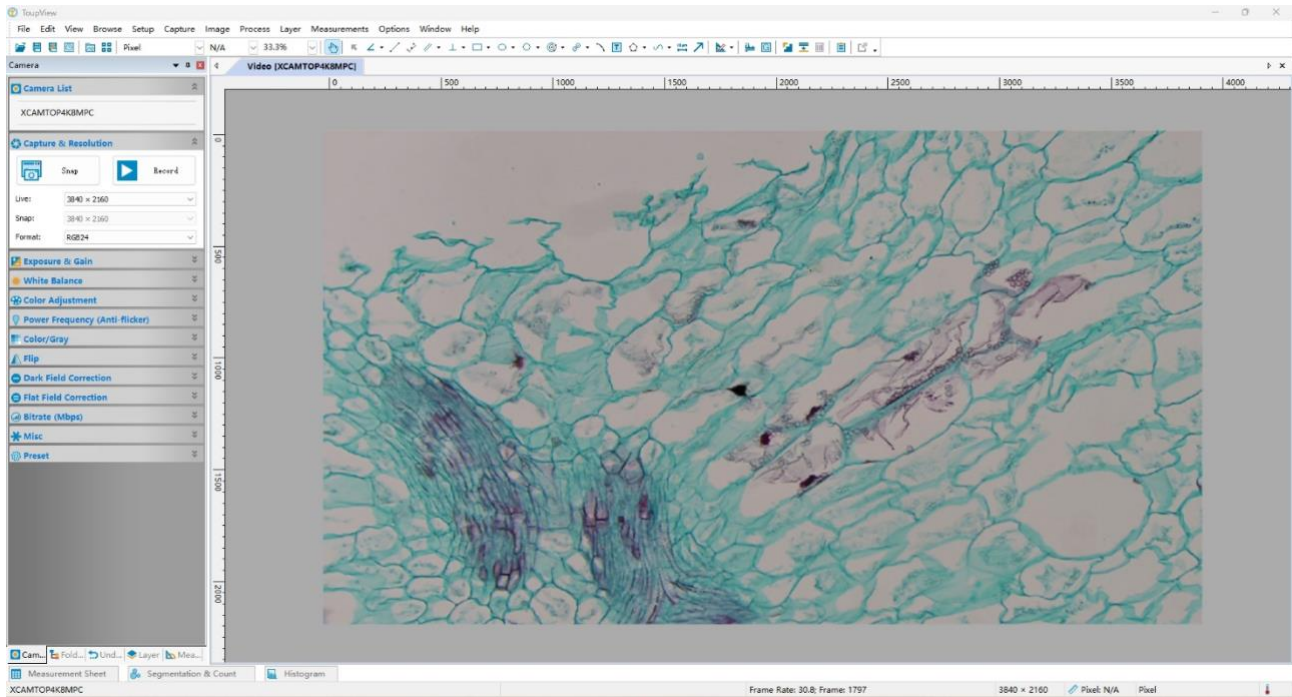

Figure 7 ToupView and XCAMTOP4K_MINI Series Camera in USB Mode
- Install ToupView/ToupLite on your PC or install ToupView App on the mobile device; Run the software ToupView/ToupLite, clicking the camera name in the camera list n to start the live video as shown in Figure 7.